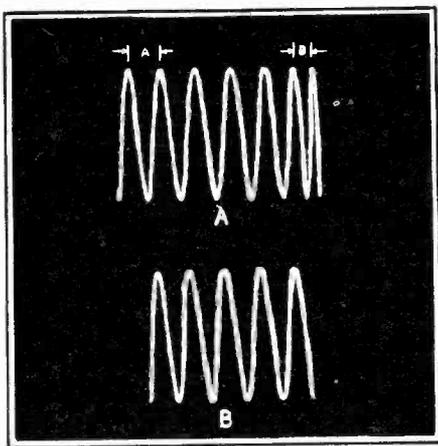

Fig. 13 Top, distortion caused by non-linear sawtooth voltage. Below, same signal plotted on a time base which is linear
5. The sawtooth generator should provide linear sawtooth signals so that the oscillograph does not introduce distortion of the incoming signals when the instrument is used to examine waveforms in the receiver. The linearity of the oscillograph sweep can be checked by applying a sine wave to the Y-axis input terminals and setting the sweep to a low enough frequency to provide several cycles on the screen. In the oscillograms of Fig. 13, A